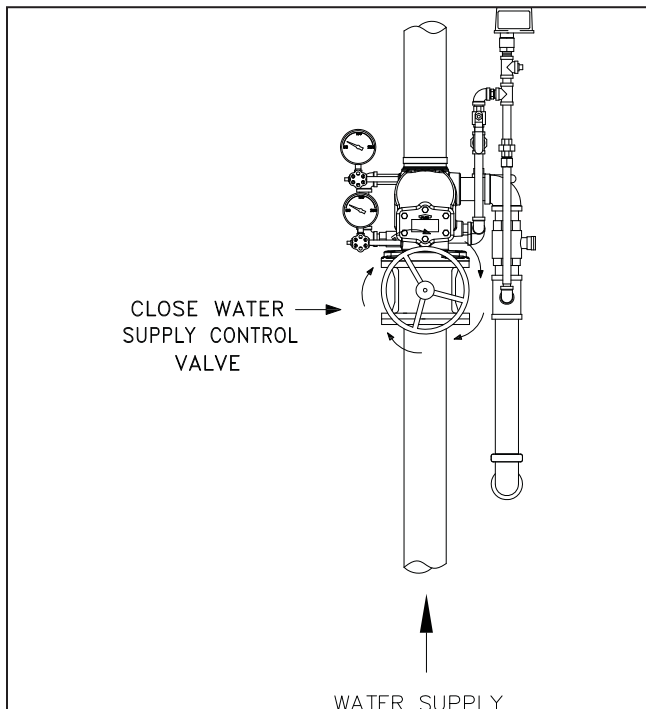

Figure 45
2. Close the water supply main control valve, placing the system out of service (Figure 45).